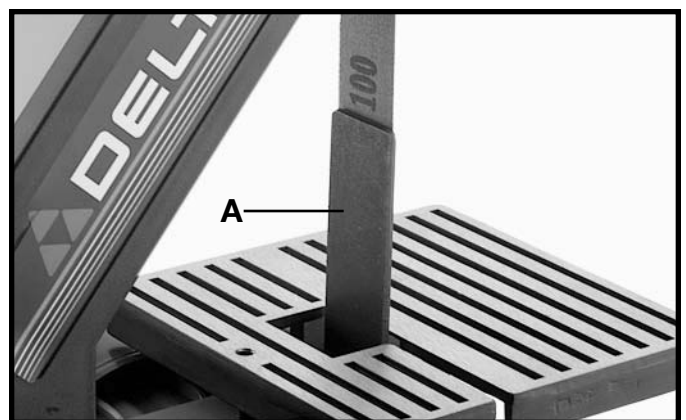

Fig. 22
The platen (A) Fig. 22, is constructed of heavy steel to properly support the work. To adjust, loosen the two screws that fasten the bottom of the platen to the frame, adjust the platen, so that it is almost touching the back of the sanding belt, and tighten the two screws.
To remove the platen (A) Fig. 22, for strapping, polishing or other special operations, remove the two screws that fasten the bottom of the platen to the frame.